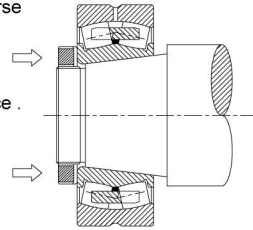

Figure 5-12 Mounting and adjustment clearance use lock nut
2) Tunable of mounting place is very ideal method for, figure 5-12, Mounting and adjustment clearance use lock nut. Generally this method is used for the bearing of machine tool.